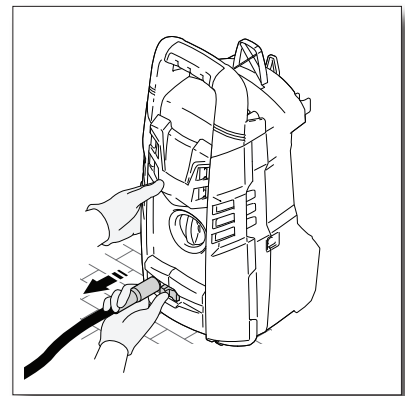

Fig. 3
- When not in use, disconnect the 20’ soft PVC high pressure hose by pushing the lock the opposite direction and pulling firmly on the hose again (**Fig. 3**).